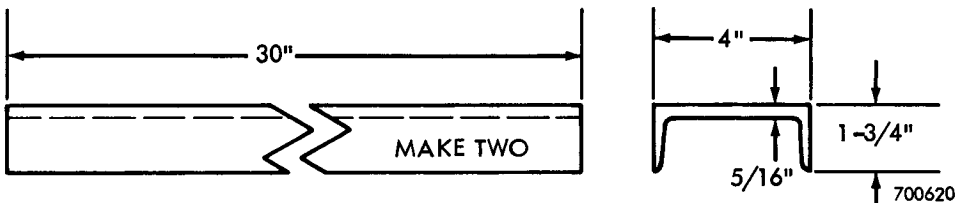

Figure 2
**NOTE:** A set of loader lift cylinder safety stops can be fabricated from channel stock. Use the dimensions shown in Figure 2. To install, raise the loader to full height and position the stops over the rod end of the lift cylinders. Lower the loader into the stops.